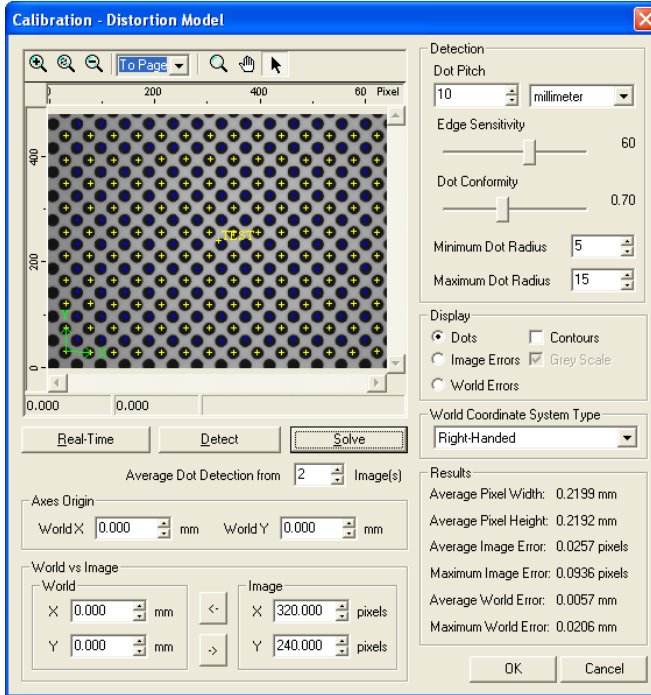

Figure 112 Distortion Model Calibration Dialog
5. Go to the **Calibration** sub-panel. Select **Distortion Model**. Click **Show Calibration Dialog**. The **Distortion Model** dialog is displayed (see Figure 112).